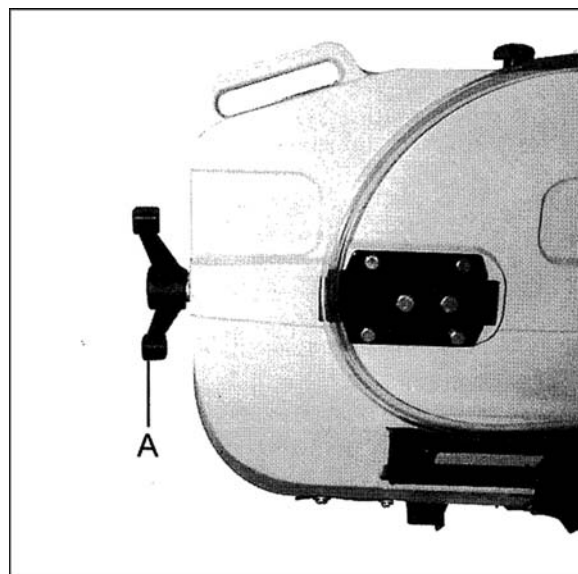

Figure 14
3. Turn blade tension knob (A, Figure 14) one and three quarter to two revolutions clockwise. This equals approximately 23,000 lbs. of blade tension.